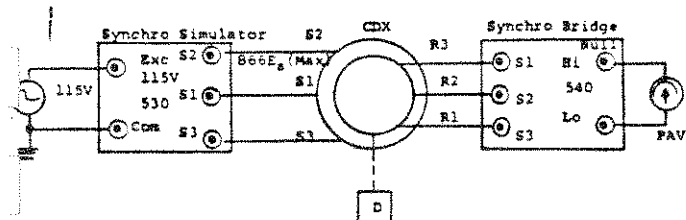

Figure 7-6. Angular Accuracy (Rotor) (CDX)
- a. Set up equipment as shown in figure 7-6